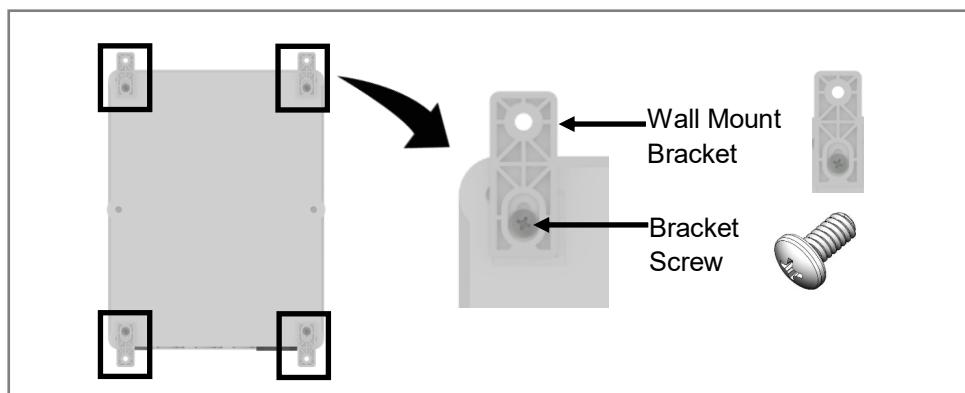

Fig 17. Install Wall Mount Brackets to BMS Gateway
1. The back of the BMS Gateway has four screw openings, one in each corner (Fig 17). For each corner, align the wall mount bracket with the screw hole and secure (using a Philips Head screwdriver) with the provided bracket screw (Fig 17). Do not overtighten.
Wall mount brackets can be installed vertically (as shown in Fig 17) or horizontally.